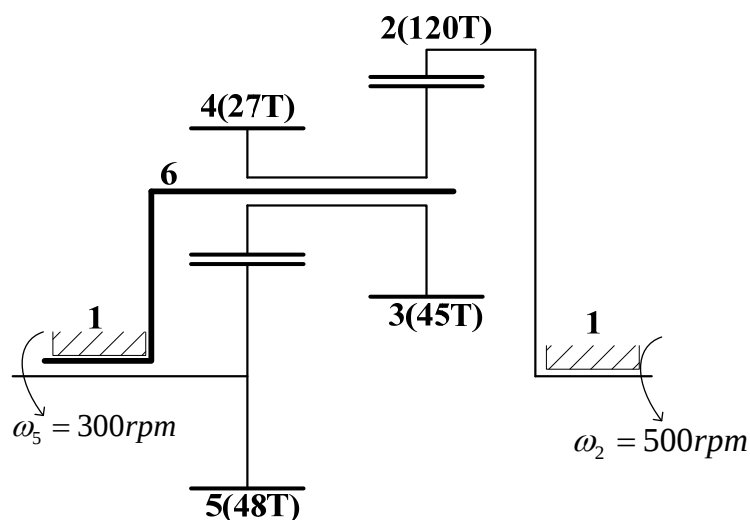

Figure 3 Gear train
3. In the gear train of Figure 3, the inputs are the sun gear 5 and the ring gear 2. For given angular velocities of $\omega_{51} = 300 \text{ rpm}$ and $\omega_{21} = 500 \text{ rpm}$ (both counterclockwise as seen from the right), find the resulting rotation of ram 6. (25%)